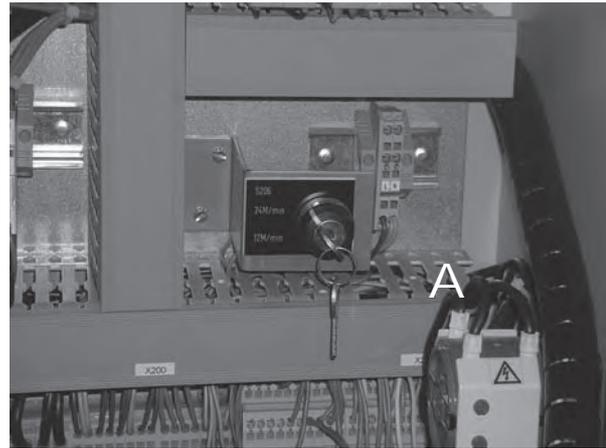

Fig.7-02 Key switch
1. Switch the key switch at the inside of the switch box on the platform in the required position and close the switch box. See fig.7-02, A.